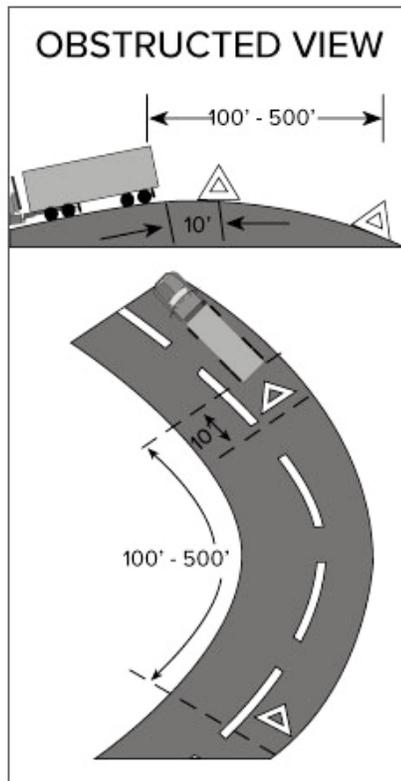

Figure 2.10
- Back beyond any hill, curve, or other obstruction that prevents other drivers from seeing the vehicle within 500 feet. If line of sight view is obstructed due to hill or curve, move the rear-most triangle to a point back down the road so warning is provided. See *Figure 2.10*.